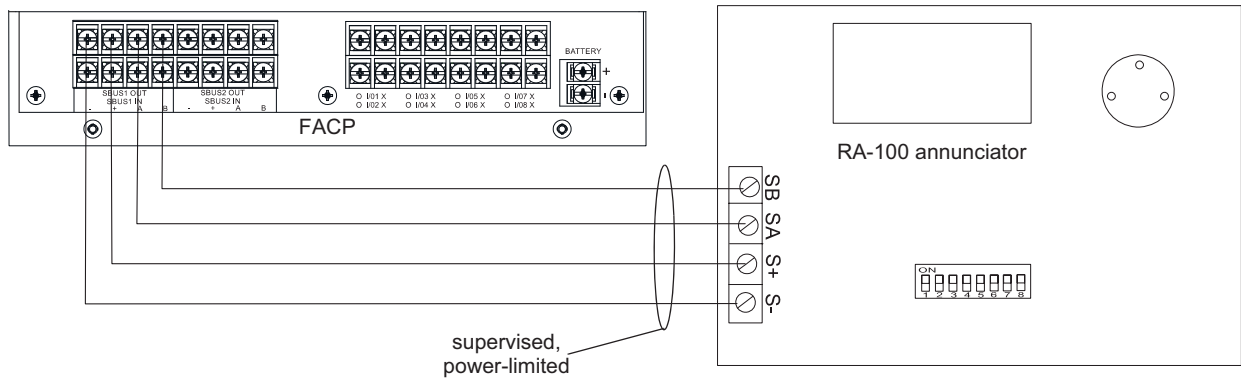

Figure 4.19 RA-100 Connection to the Panel
7. Wire the annunciator board to the main control panel. Refer to Figure 4.19.
7. Run wires to the control panel. Refer to Figure 4.19.